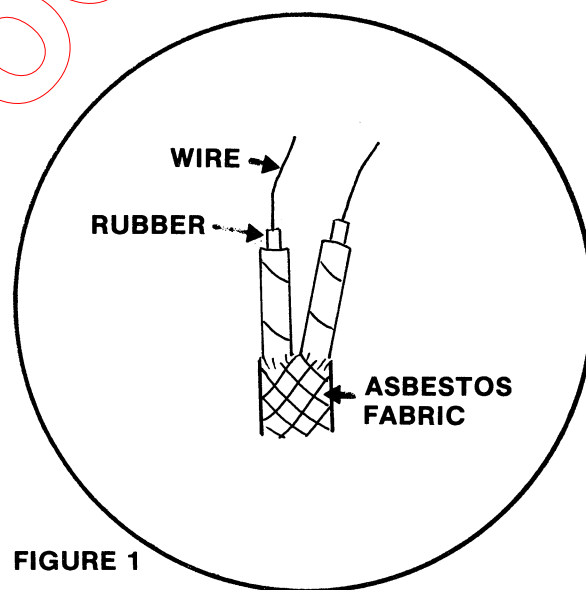

FIGURE 1
4. Split the fabric cover $1\frac{1}{4}$ inches, using the scissors. Remove this outer fabric. On the end of the cord, cut away $\frac{5}{8}$ inch of the asbestos covering, leaving bare wires. The asbestos covering should remain in place for the next $\frac{5}{8}$ inch. (Fig. 1)